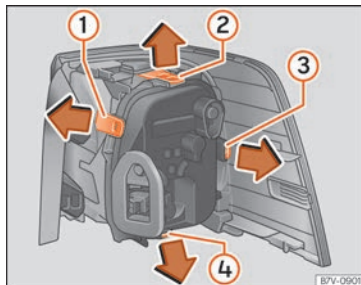

Fig. 116 Tail light on the bodywork: detach the bulb holder. ① a ④: lock latches.
8.	To release the bulb holder, press on the attachment tabs »» Fig. 116 ① to ④ in the direction of the arrow.